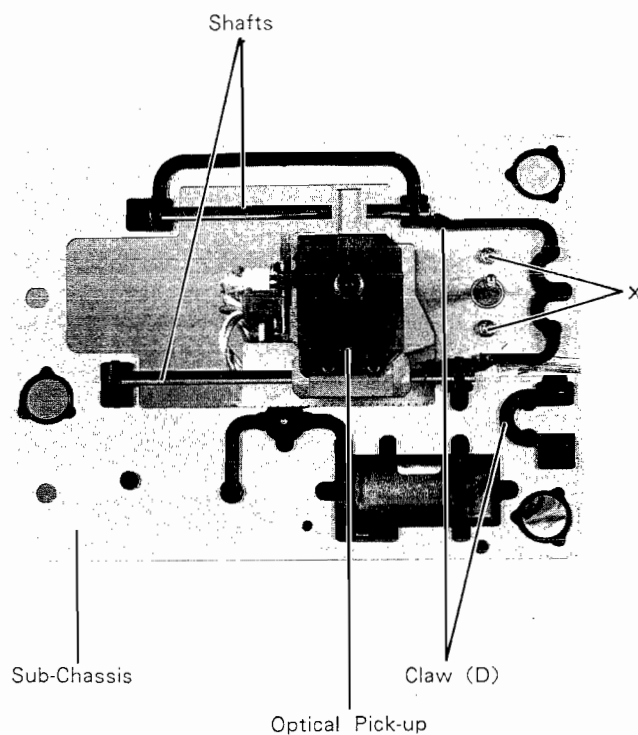

Figure 12
(2) While pressing two claws (D) in toward pull out two shafts in the arrow direction as shown in Figure 12.
(2) Remove two screws marked "X" as shown in Figure 12.